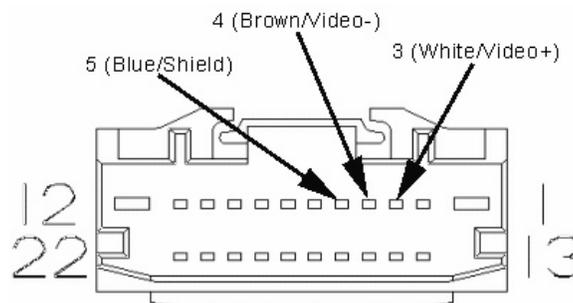

Figure 7: 22-pin Connector face
3. Install three pins from Harness B into the white plug as shown (fig. 7).